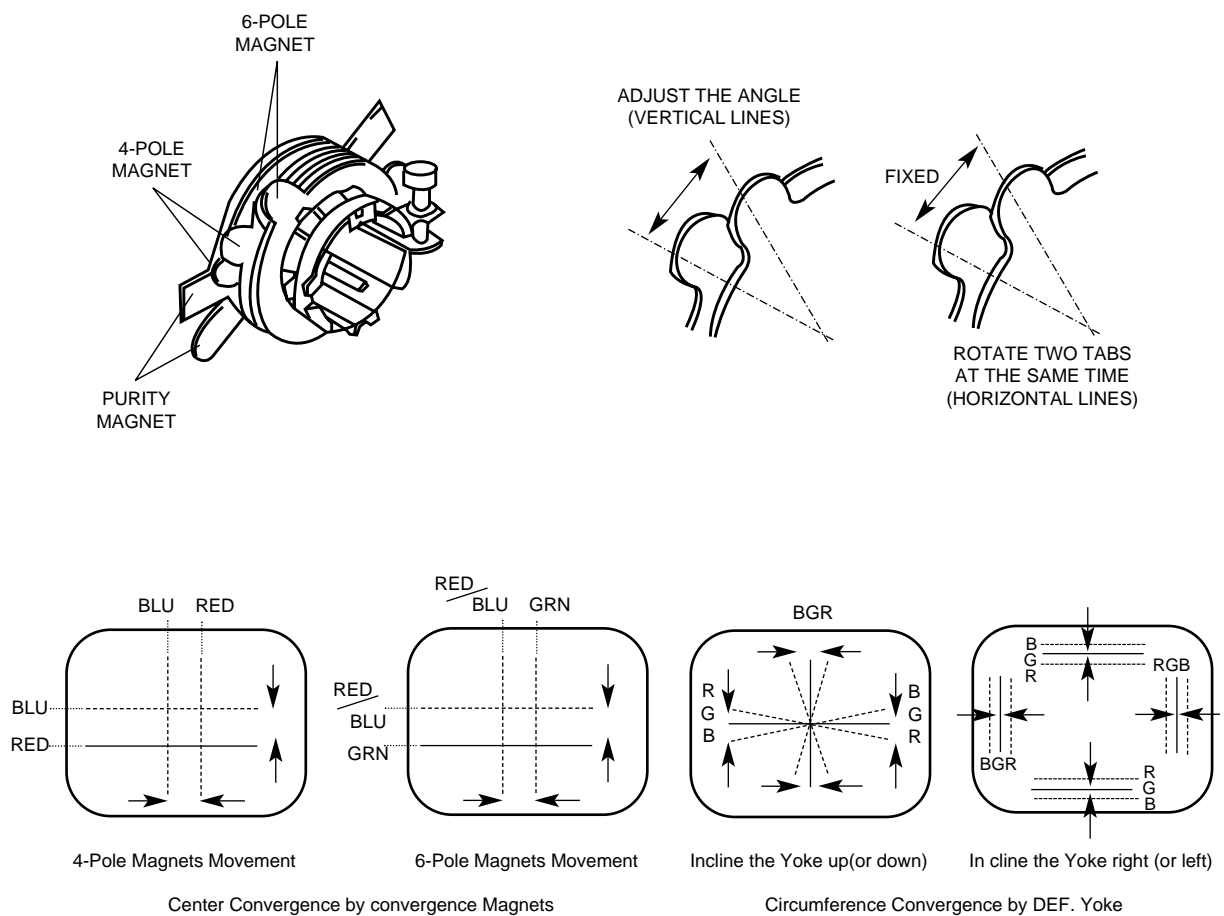

FIGURE 2. CONVERGENCE ADJUSTMENT
6. Rotate and spread the tabs of the purity magnet (See Figure 2) around the neck of the picture tube until the ground belt is in the center of the screen. At the same time, center the raster vertically.
3. Adjust two tabs of the 4-pole magnets to change the angle between them (See Figure 2) and superimpose red and blue vertical lines in the center area of the picture screen. (See Figure 2)
4. Turn both tabs at the same line keeping constant the angle to superimpose the red and blue horizontal lines at the center of the screen. (See Figure 2)
(See Figure 2) Push the mounted wedge into the space between picture tube and the yoke to hold the yoke temporarily.
5. Tilt the front of the yoke right or left to obtain better convergence in circumference. (See Figure 2)